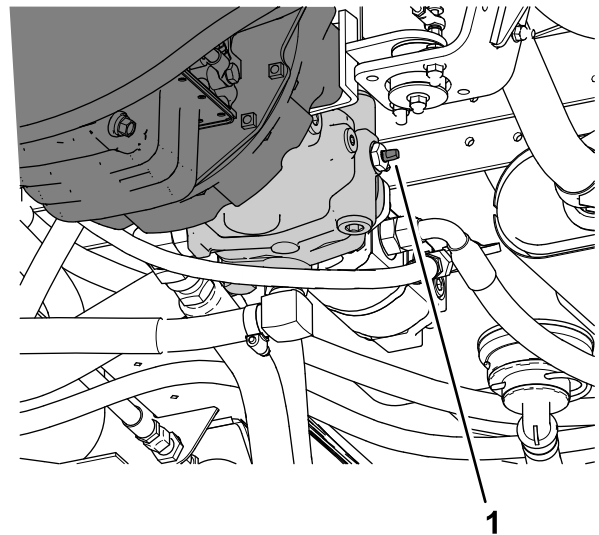

Figure 57
3. Rotate the tow valve (Figure 57) 90° in either direction to open the tow valve.